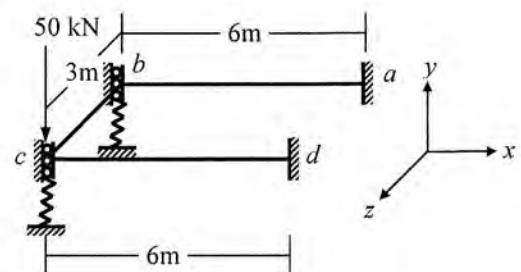

Fig. 11
- Hinged, as shown in Fig. 11(i)
- Supported by circular foundation of radius 4-ft on the surface of sub-soil (half-space) with shear modulus $G_s = 400$ k/ft² and Poisson's ratio $\nu = 0.3$, as represented in Fig. 11(ii).
13. Use Stiffness Method to calculate the vertical deflection at node b and c of the grid $abcd$ loaded as shown in Fig. 11